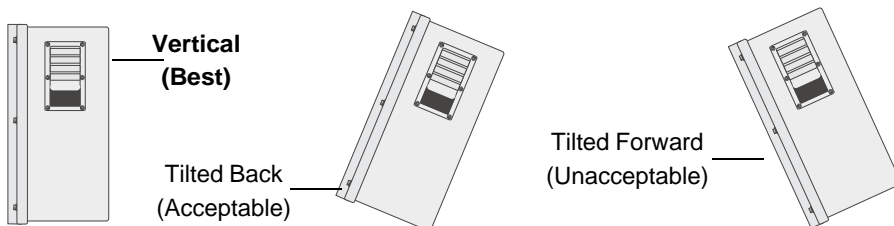

Figure 3-1 Sunny Boy Mounting Positions
- If the inverter is installed outside, it should be mounted vertically (see Figure 3-1).